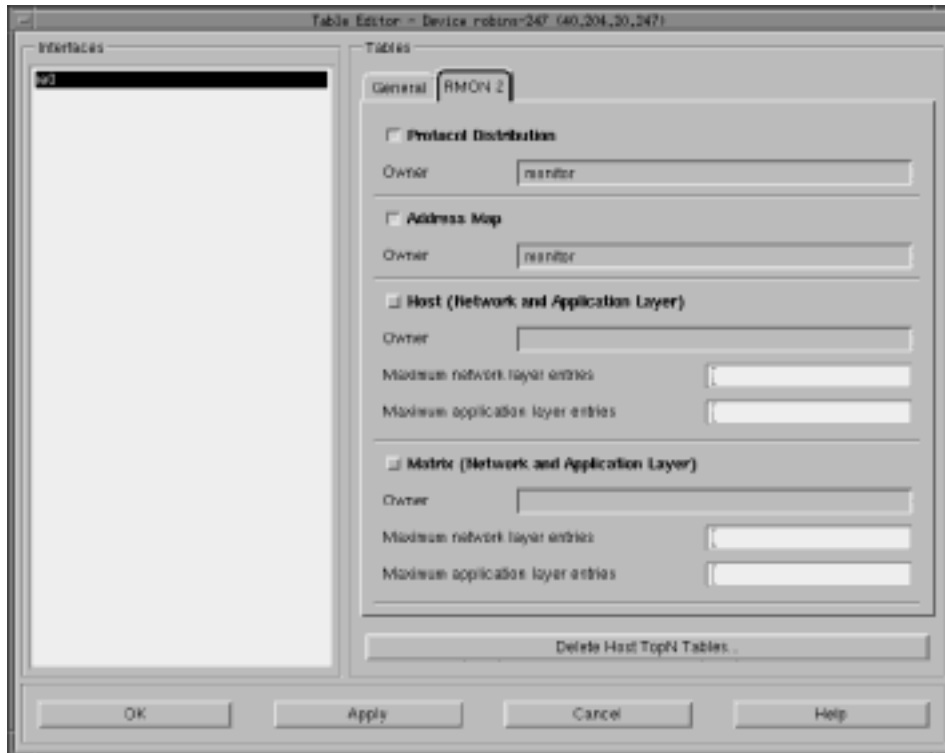

Figure 5. Table Editor Dialog Box
2. Click **Table Editor** to open the Table Editor dialog box, shown in Figure 5 on page 14.